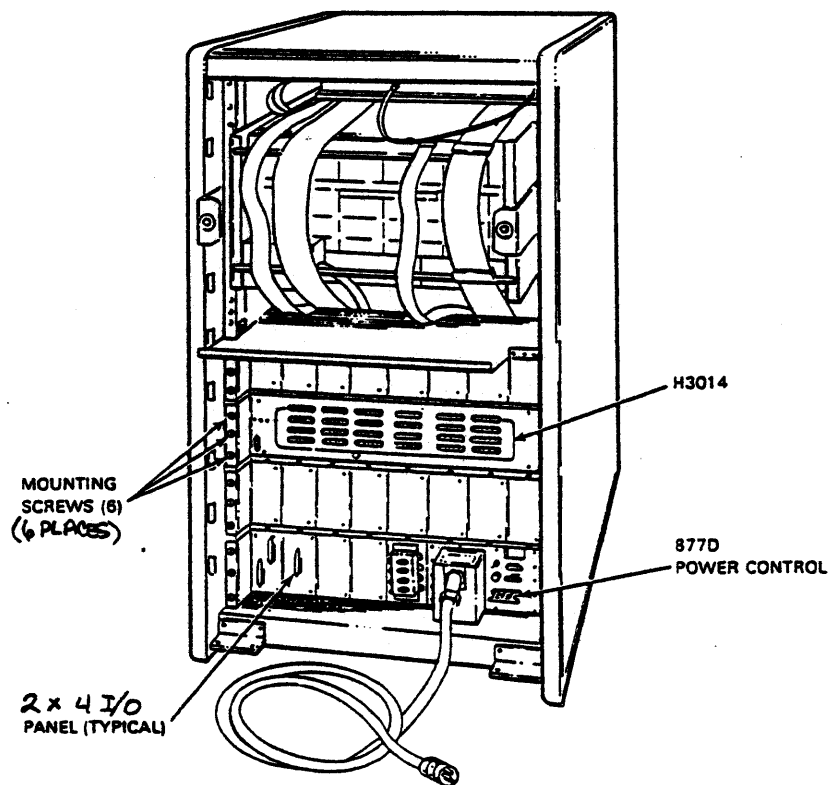

Figure 2-4 Typical H9642-FC/FD FCC Shielded Cabinet after H3014 Installation
The distribution panel can only be mounted to the cabinet in the location above shown in Figure 2-4.
6. Position the distribution panel and secure it to the cabinet vertical mounting rails using the six philips mounting screws (Figure 2-4).